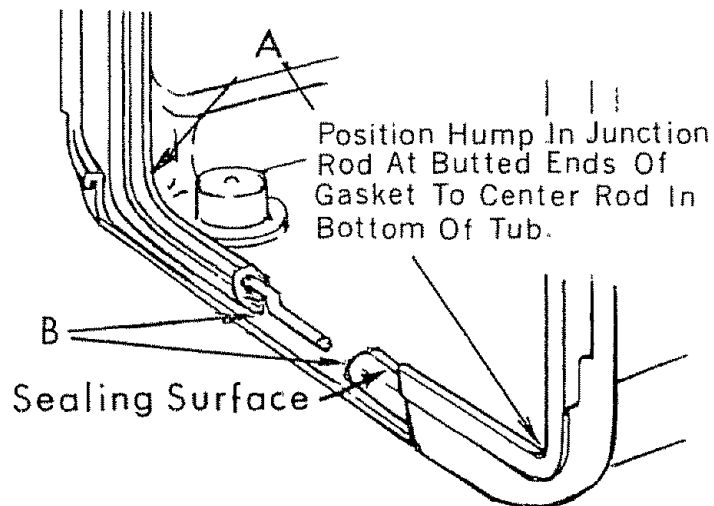

FIGURE 83
3. The replacement gasket must have both bottom front corners positioned tightly against curved surface of tub (A-Figure 83) and held in this position with the two stainless retainer clips located at bottom front of tub (B-Figure 83). Later models have only 1 stainless clip which holds the "U" shaped portion of the junction rod.